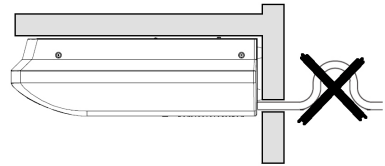

fig. 12
-Ensure a minimum slope towards the downflow side to prevent water stagnating in the tray (fig.12).